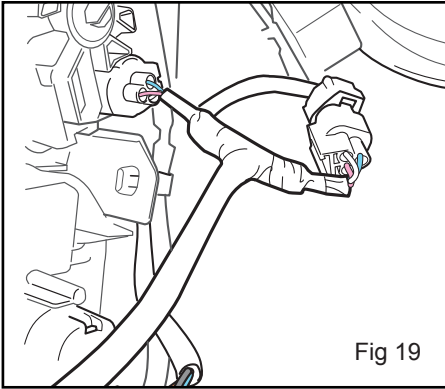

Fig 19
17. Closeup picture of the Purple, Blue, White Patch connection to headlight motor and Plug. (Figure 19)